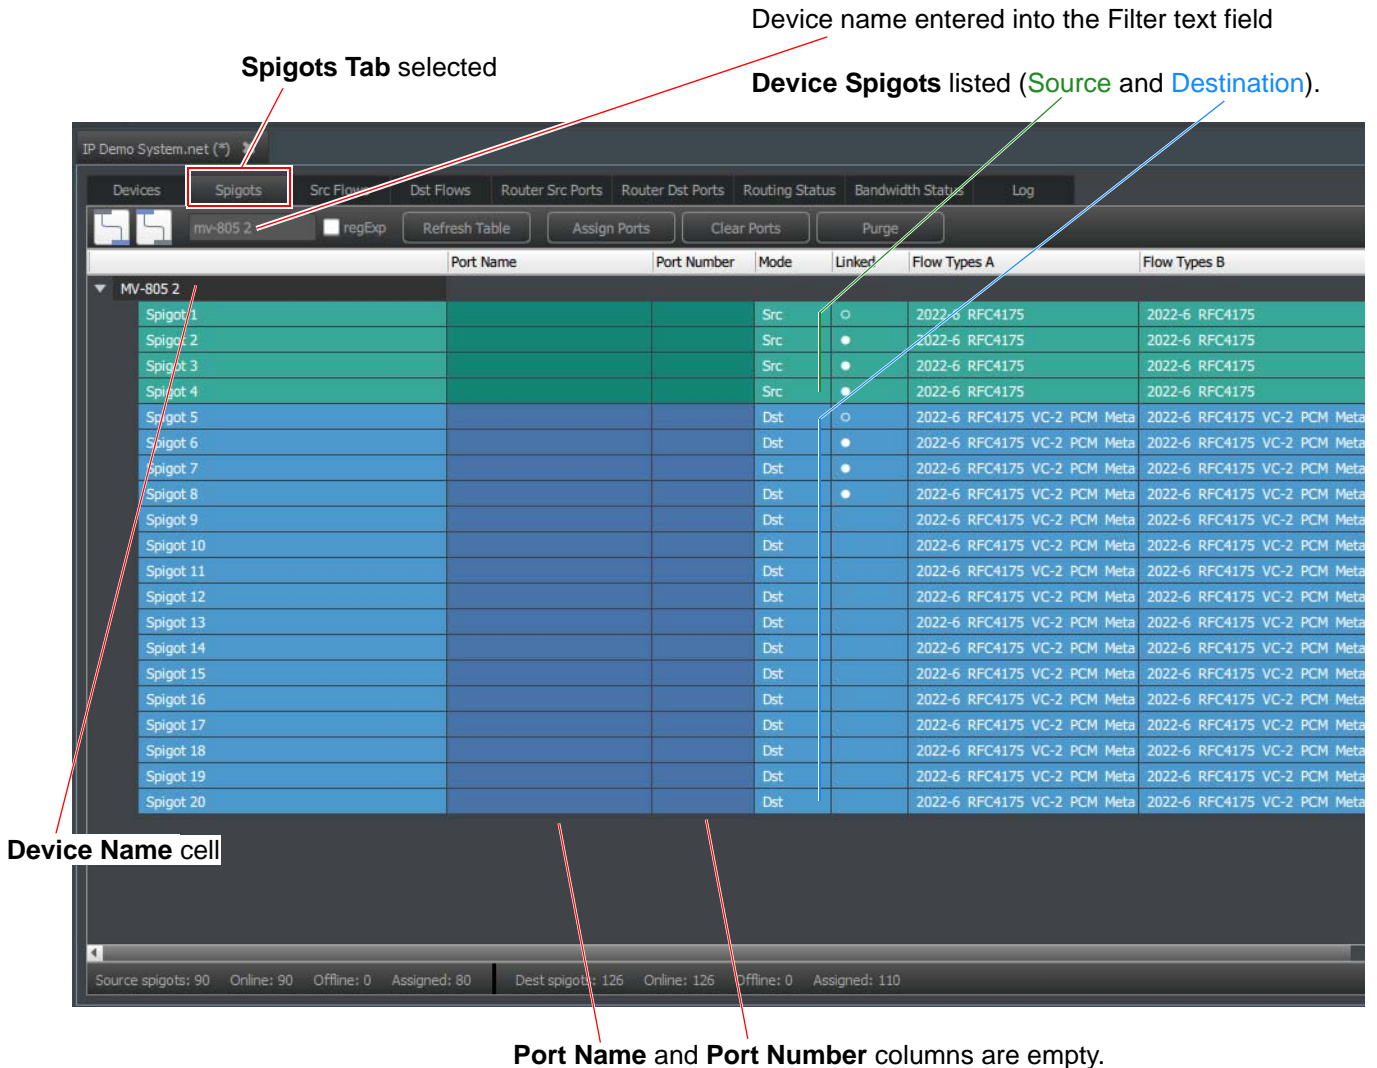

Figure 76 SAM Orbit - Spigots Tab (MV-805-16 shown, 4 source spigots and 16 destination spigots)
- **MV-805-16:** 4 Source and 16 Destination Spigots. (For example, see Figure 76.)